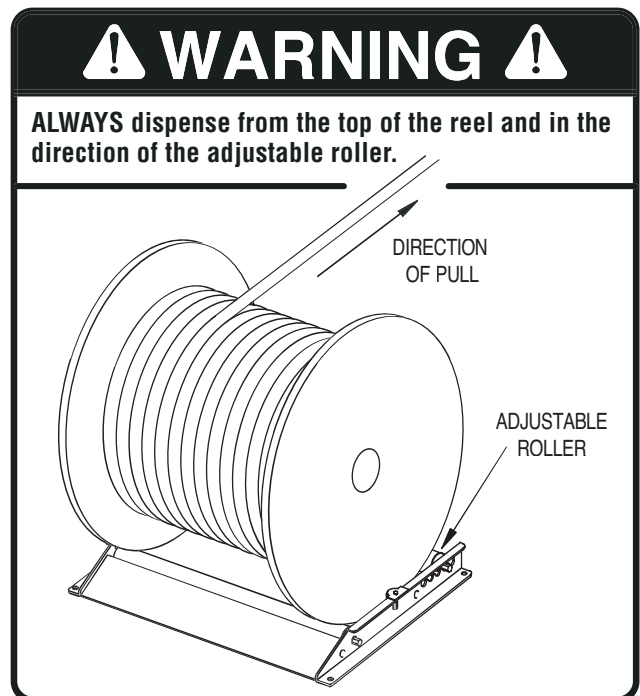

FIGURE 1
- ALWAYS dispense from the top of the reel. (See Figure 1)
3. Place reel on reel roller ensuring that you will dispense from the top of the reel and the pull direction is toward the adjustable roller. (*See Figure 1.*)